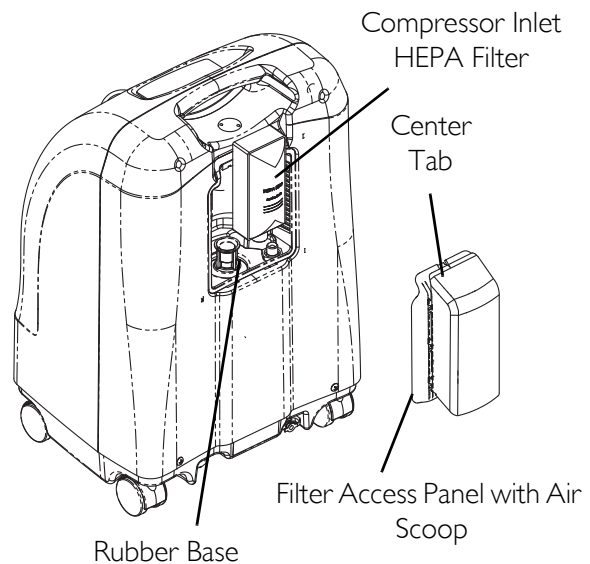

FIGURE 6.3 Replacing the Compressor Inlet HEPA Filter
3. For easier access to the outlet HEPA filter, remove the compressor inlet HEPA filter by grasping the compressor inlet filter, pull outward and up until filter is dislodged from rubber base (FIGURE 6.3).
NOTE: For this procedure, refer to FIGURE 6.3 on page 25.